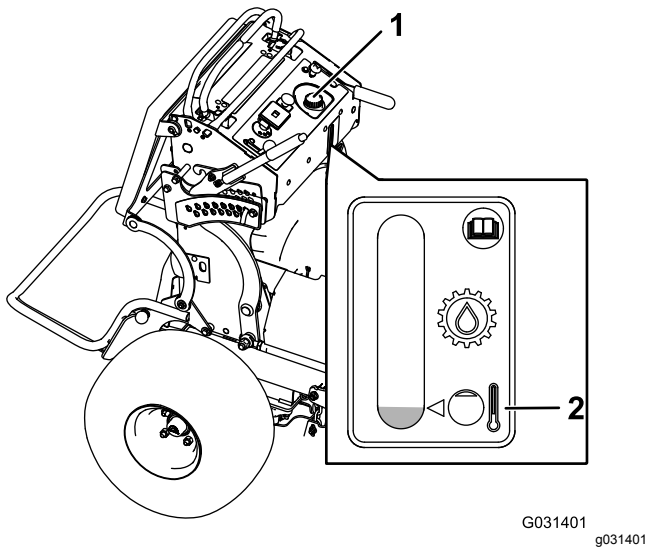

Figure 69
4. Remove the cap from the filler neck (Figure 69).